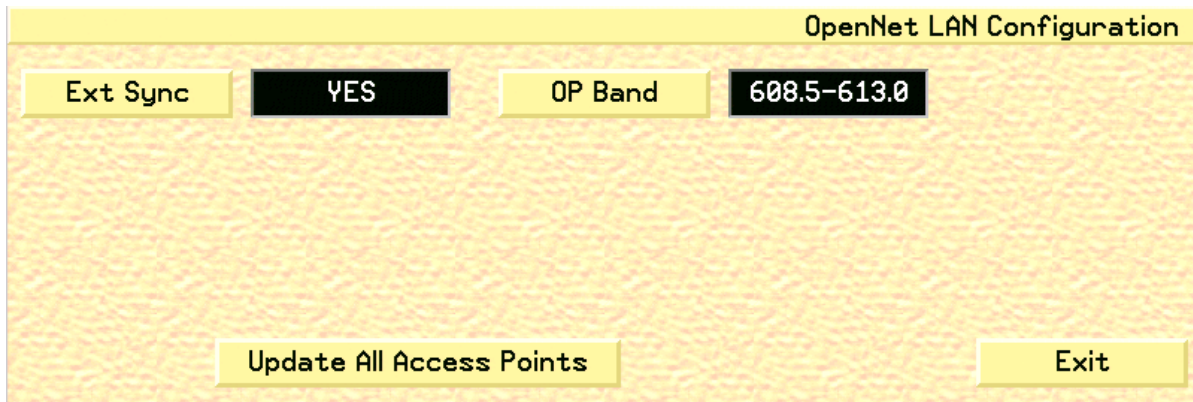

Fig. 61. OpenNet LAN Configuration Screen
1. Click the **LAN** button to open the OpenNet LAN Configuration screen (fig. 61).